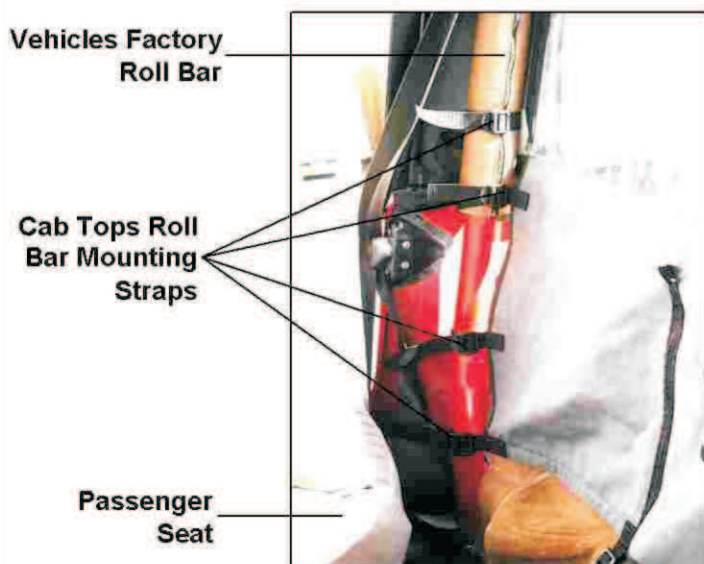

Figure 14
1. Locate the (8) Mounting Straps behind the driver and passenger seat of the vehicle (Figure 14). **NOTE:** There are (4) Mounting Straps behind each seat.